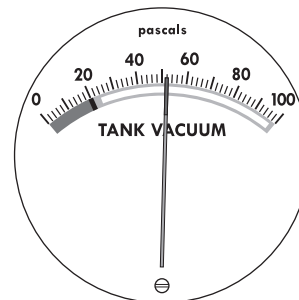

Fig. 12) Tank vacuum gauge with indicator in the acceptable area of operation (operate with full open vacuum flow applied to achieve > 50 Pa)
14. With the Heater-Cooler 3T switched off, adjust the vacuum source to full open vacuum flow so that the vacuum gauge on the Heater-Cooler 3T displays > 50 Pa (see Figure 12).
15. Switch on the Heater-Cooler 3T and during use adjust the vacuum source to full open vacuum flow to ensure that the vacuum gauge on the Heater-Cooler 3T operates at > 50 Pa (see Figure 12).
- ▶ If the measured pressure inside the Heater-Cooler 3T tank is not greater than 50 Pa (see Figure 12), adjust the vacuum regulator of the vacuum source to full open vacuum flow until the tank vacuum gauge indicator reaches the acceptable area of operation (see Figure 12).